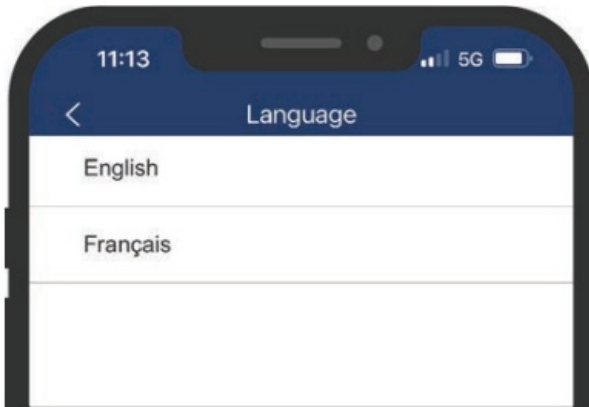

Figure 13
1. Tap on the desired language. (Figure 13)